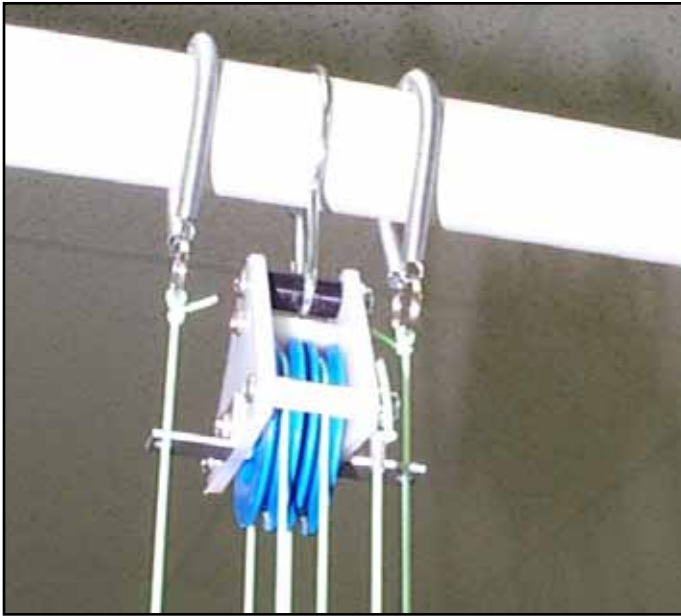
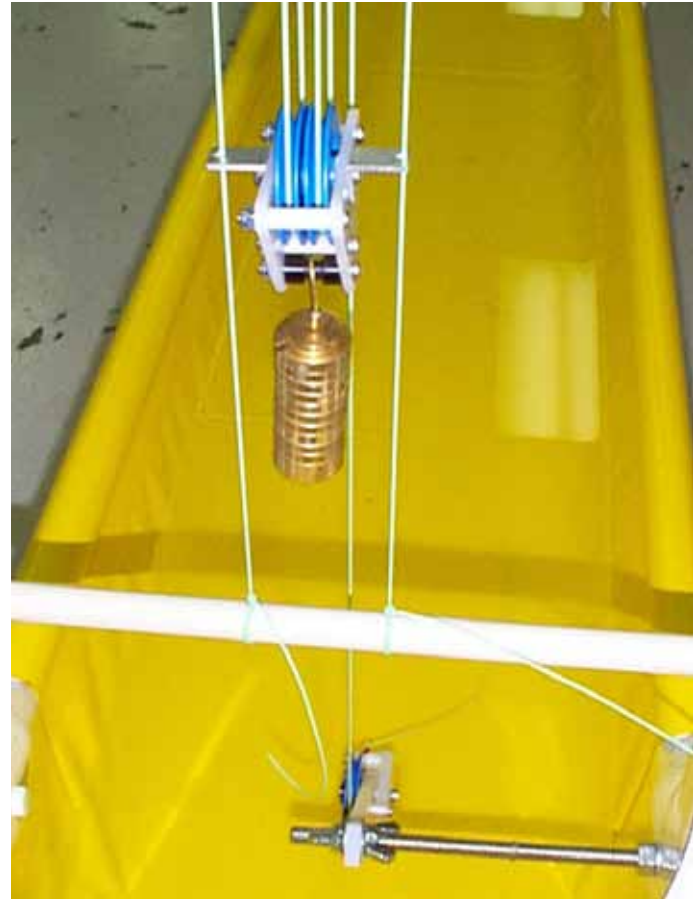

Figure 18
Figure 19
12. Attach a brass weight set (Part 119) to the bar on the bottom pulley block (see Figure 19 for placement of weight set).
13. Attach pulley block guidelines. Knot the end of a seven-foot length of fishing line (Part 124) to the ring at the base of one of the springs. Pull the line down (keeping a slight tension on the spring) and thread it through the metal angle irons on both the top and bottom pulley blocks (Figure 18). Make the line taut and tie it at the base by knotting it around the guideline support bar. Repeat the process for the other spring. These guidelines will prevent the pulley strands from tangling (see Figure 19 for the bottom of guideline assembly).
When the pulleys are threaded and the weights and pulley block guidelines are attached, the assembly should look like Figure 19. The free end of the pulley line is now ready to attach to a boat.